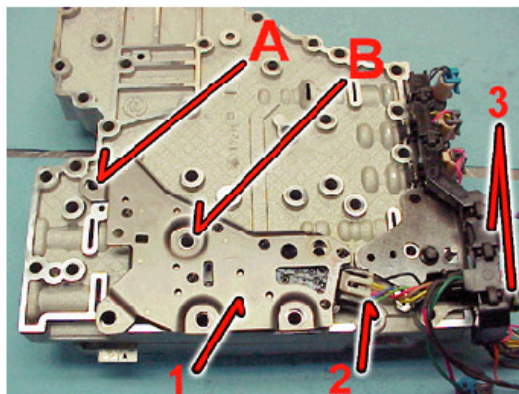

Figure 13: 5 pin harness location (Arrow 2)
16) Plug the 5 pin wiring harness into the pressure manifold block (Figure 13, Arrow 2)